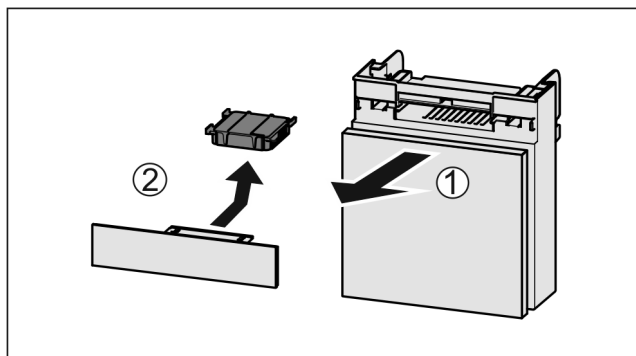

Fig. 83
- ▶ Pull out the compartment Fig. 83 (1).
- ▶ Remove the carbon filter Fig. 83 (2).